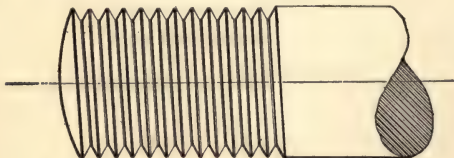

FIG. 42.
93. In machine construction, screws are used more frequently as fastening devices than as a means of transmitting motion or producing pressure. Screws used as fastening devices may be divided into two general classes, which are distinguishable from each other by the form of thread used: (1) *Metal screws*, or screws intended to be screwed into metals. (2) *Wood screws*, or screws intended for wood.
94. **Metal screws** have either a sharp **V** thread or the United States standard thread shown in Fig. 42. In the